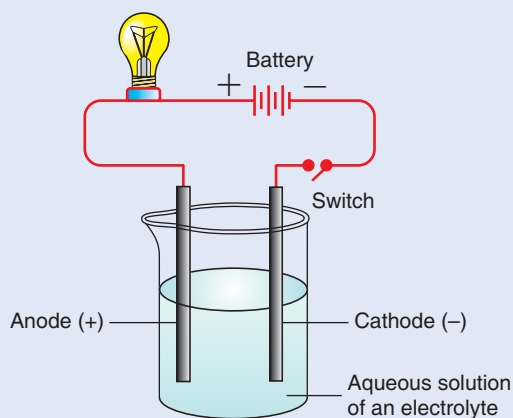

Figure 3.4 Conductivity of electrolytic solution.
Construct a conductivity apparatus in your group. To construct the apparatus, you will need a light bulb, three dry cells, some electric wire, two graphite electrodes and a switch. You can get the graphite electrodes by peeling off two old dry cells. A graphite electrode is the long cylindrical black rod inside the cell. Ask your teacher for further assistance. Assemble the materials as shown in Figure 3.4. Demonstrate the experimental set-up to the class.
1. Arrange the conductivity apparatus as shown in Figure 3.4.